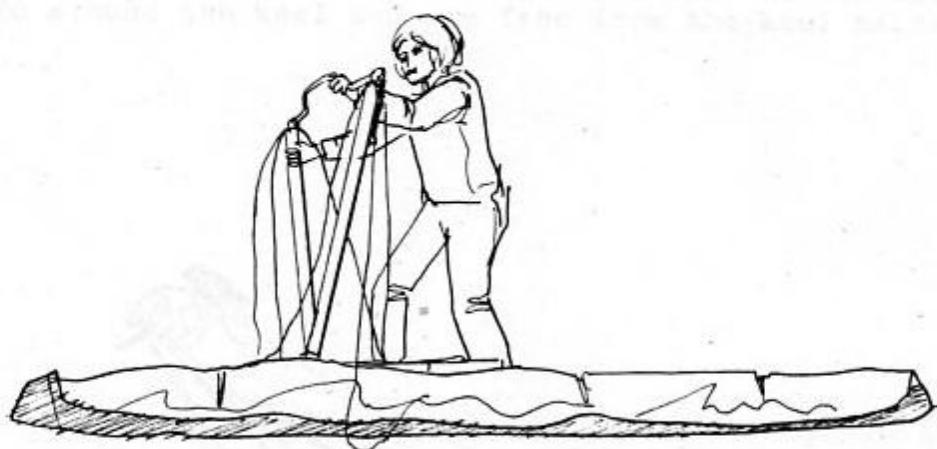

Fig. 3.2.9.
4. Rest the glider on the control bar (Fig. 3.2.9, 3.2.10).